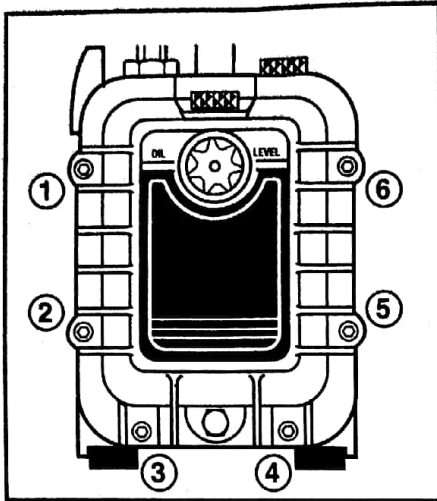
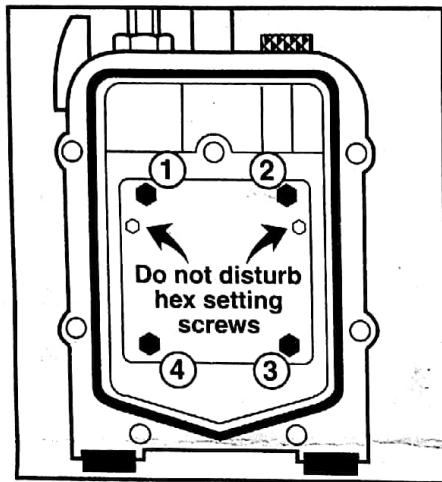
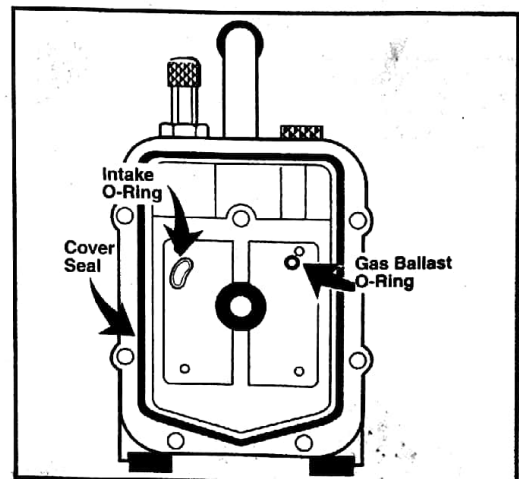

FIG. 4
FIG. 5
FIG. 8
If old cartridge is frozen, i.e. coupler will not turn, remove oil cover (**FIG. 4**) and four cartridge bolts (**FIG. 5**). By turning cartridge, coupler will rotate into position.
1. Using 3/16" Allen wrench remove 6 socket head cap screws from oil cover (**FIG. 4**).
1. Remove 4 cartridge screws with 7/16" or 3/8" wrench (**FIG. 5**). Discard old gasket seal and 2 O-rings along with cartridge and bolts.
4. Insert intake and gas ballast O-rings in trap (**FIG. 8**). Gasket replaced after cartridge is installed.
3. Replace gasket (**FIG. 8**) and re-install oil cover to trap (**FIG. 4**).